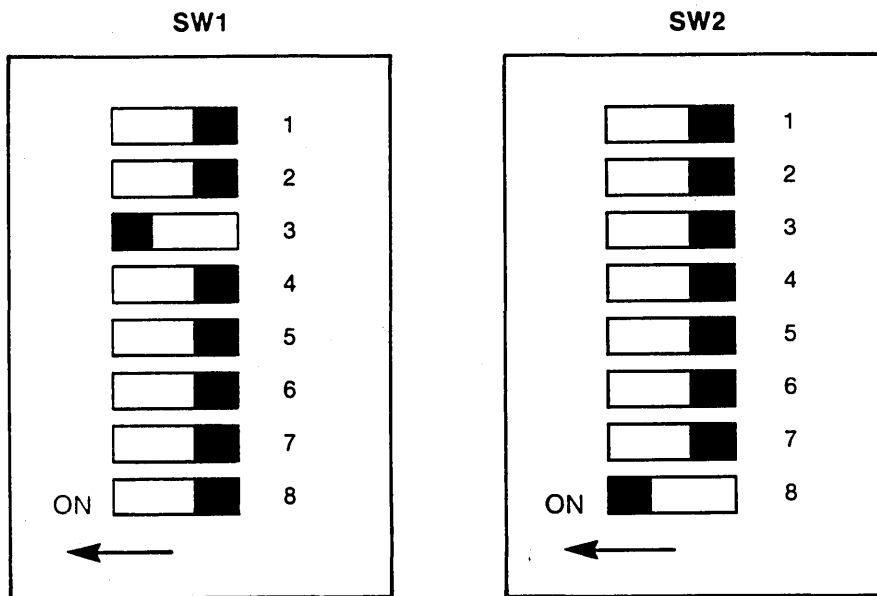

Figure 2-1. Configuration Select Switch Settings
1. Check to be sure the dip switches are set as shown in figure 2-1.